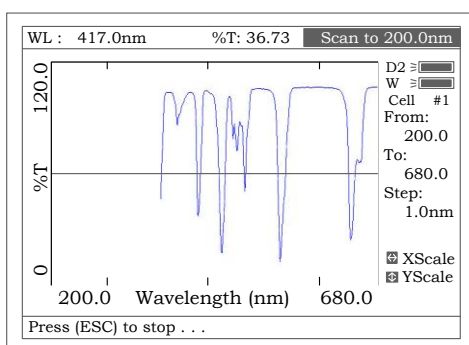
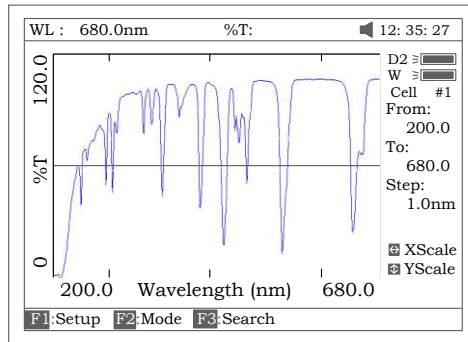

Fig 45
Fig 46
- Put the sample cuvette into Main Light Path, press **【START】** to scan the sample (Fig 45) **【ESC/STOP】** to stop scanning. When scan has finished the beeper beeps 3 times (Fig 46).
Note: The report always is printed in Fig 46